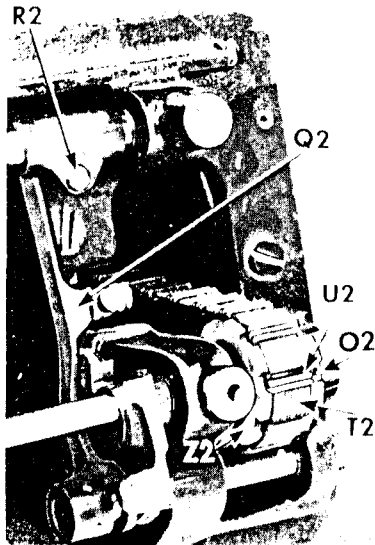
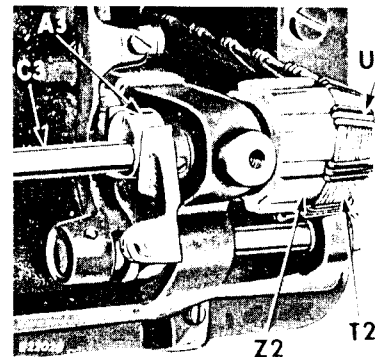

Fig. 87. Adjusting Feed Dog
Fig. 89. Timing the Feed
**CAUTION:** To avoid binding of feed rock shaft connecting link **Q2**, Fig. 87, after adjusting **sidewise position** of the feed dog, loosen clamping screw **R2**, Fig. 87 in the feed rock shaft crank and turn machine pulley over toward you several revolutions until the feed rock shaft crank and connecting link **Q2** ride freely. Then securely tighten the screw **R2**.
A close inspection of the arm shaft connection belt **T2**, Figs. 87 to 89, will reveal that there are two sets **U2** and **V2**, of three metal clips, at opposite ends of the belt, each of which include one black metal clip and two copper clips, as shown in Figs. 87 and 88.
Without disturbing the position of the belt on the upper sprocket remove and replace the belt **T2** on the lower sprocket **Z2**, Fig. 89, so that the other set of copper clips **U2** will be in the groove stamped with timing mark **O2** in the lower sprocket, as shown in Fig. 87.